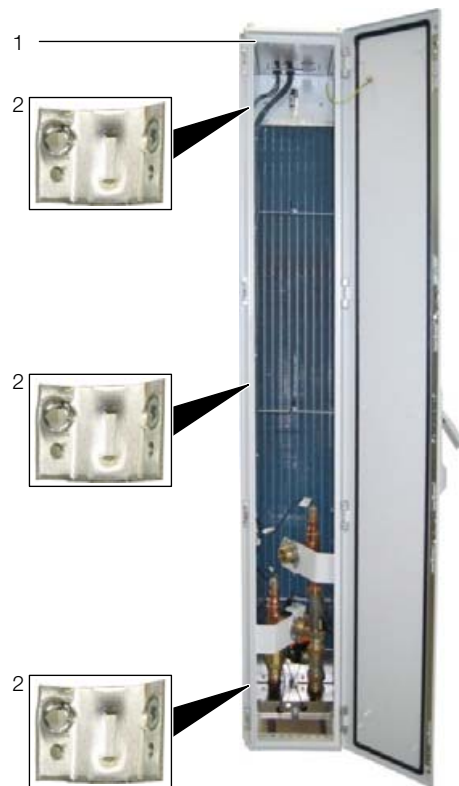

Fig. 27: LCP Rack – rear
- Using the corresponding assembly screws, fasten three baying connectors each (fig. 27, item 2) onto the attachment points provided in the mounting strips on the front and rear of the LCP Rack or LCP Inline flush (fig. 27, item 1).